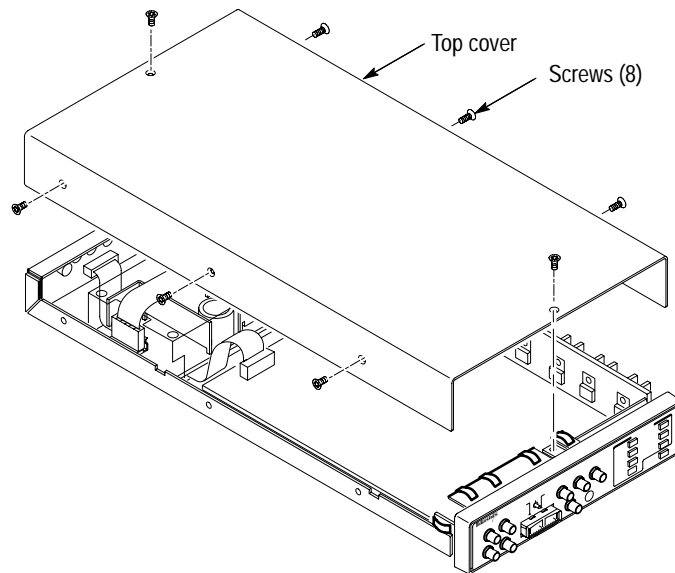

Figure 33: Removing the top cover
2. Remove the 8 screws from the top cover. See Figure 33.